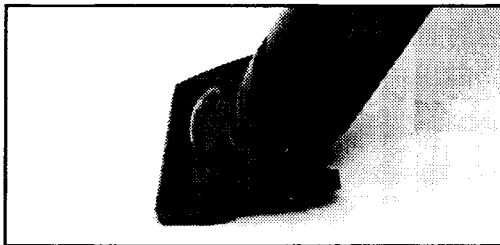

Fig. 8
2. Middle Position: This position is for normal cleaning [Fig. 8]. While in the middle position, the front of the nozzle can be raised for crossing room thresholds by lowering the handle.